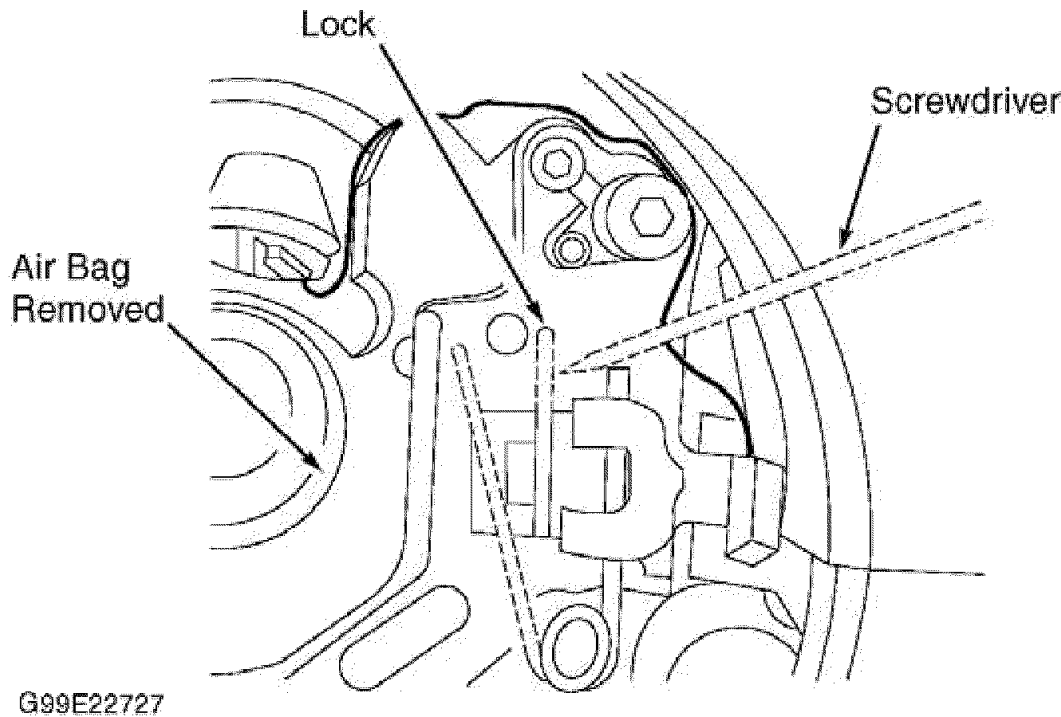

Fig. 2: Releasing Driver-side Air Bag Module Retaining Clips (Air Bag Module Removed For Clarity)
2. Press down on spring loaded clip and pull out air bag. See **Fig. 2** . Repeat process on opposite side. Pull out air bag and disconnect electrical connectors. Open locks on plugs and disconnect plug connections. Remove air bag. Put air bag module in a secure area with trim pad facing upward.